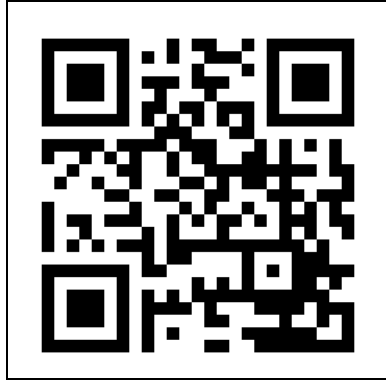

Figure 17
1. Open the Eurom Smart App manual with the QR code (Figure 17) or go to www.eurom.nl/nl/manuals.
5. Remove the batteries from the remote control (Figure 17).